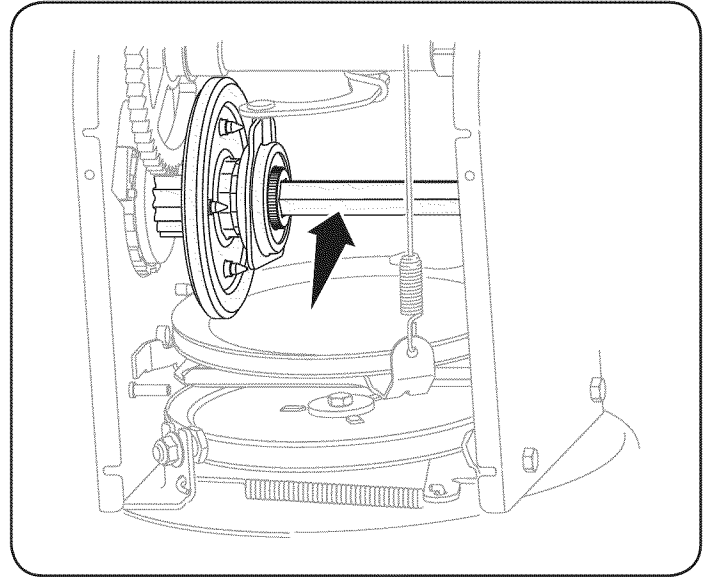

Figure 22
4. Apply a light coating of engine oil (or 3-in-1 oil) to the hex shaft. See Figure 22.